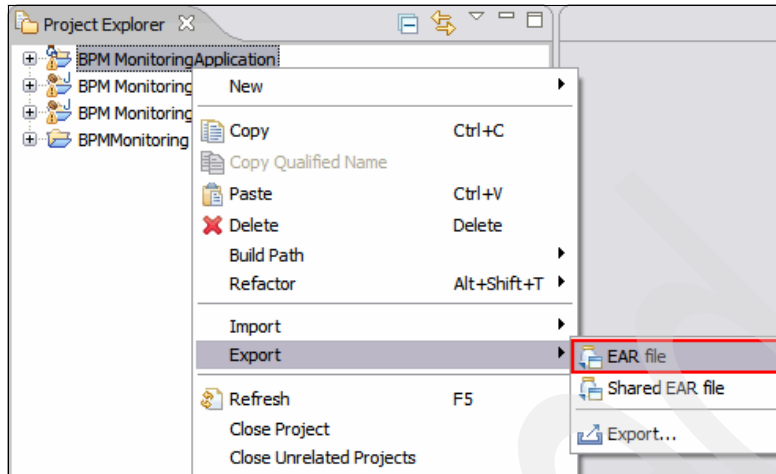

Figure 7-118 Selecting to export the EAR file
2. Right-click **BPMMonitoringApplication** and select **Export** → **EAR file** (Figure 7-118 on page 457).